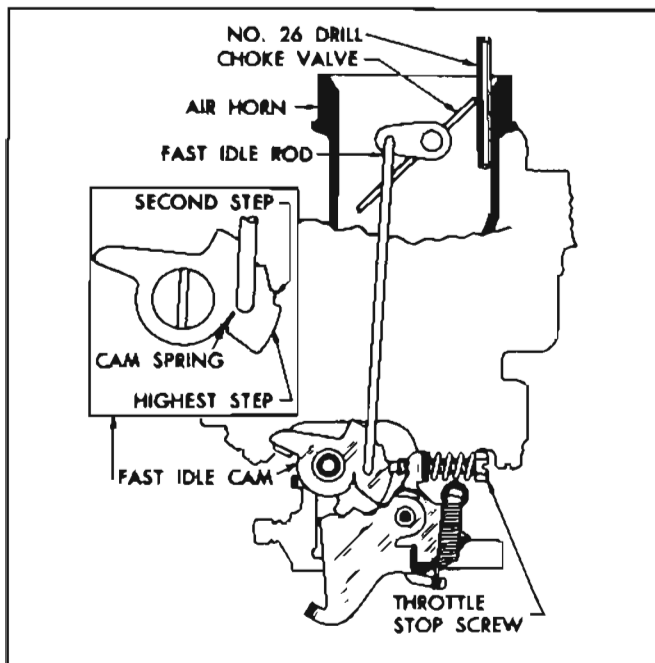

Figure 3-55—Stromberg Fast Idle Cam Adjustment
2. Place a No. 26 drill between wall of air horn and the center of upper edge of choke valve, and hold valve firmly closed against the drill. See figure 3-55.
3. Make sure that the fast idle cam spring holds the cam up against end of fast idle rod, then close the throttle until stop screw contacts the fast idle cam. The screw should just clear the edge of the highest step of cam and bear against the second step, as shown in figure 3-55.